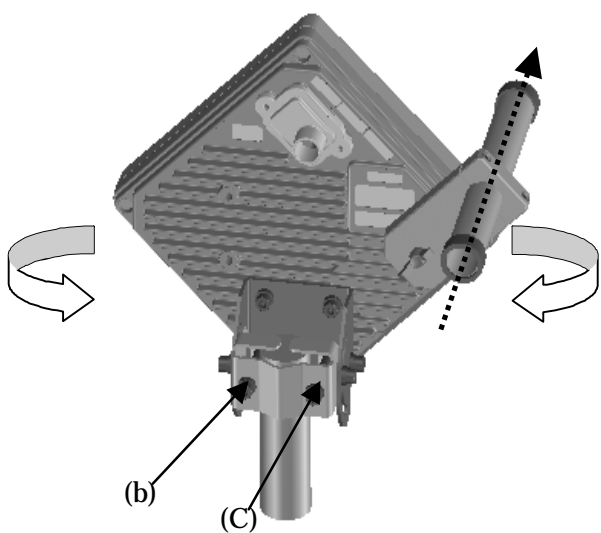
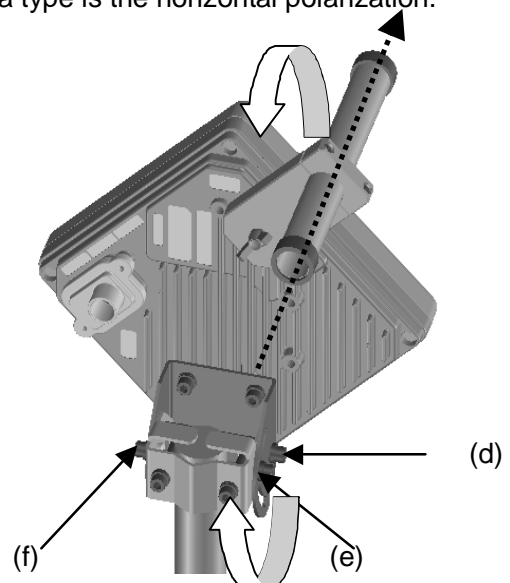

Figure 6-34 Rough-adjusting Horizontal Direction
Figure 6-35 Rough-Adjusting the Vertical Direction
- Step2 As shown in Figure 6-34, loosen the hexagonal socket head bolts (b) and (c) securing the mounting bracket and swing the antenna left or right. Adjust the antenna approximately for the WT direction and finger-tighten the bolts (b) and (c).
- Step3 As shown in Figure 6-35, loosen the bolts (d), (e), and (f) and tilt the antenna up or down. Perform vertical-direction adjustment so that the WT of the opposite station can be seen through the scope of the Antenna direction adjustment tool.
In Figure 6-34 and Figure 6-35 is an example when the antenna type is the horizontal polarization.